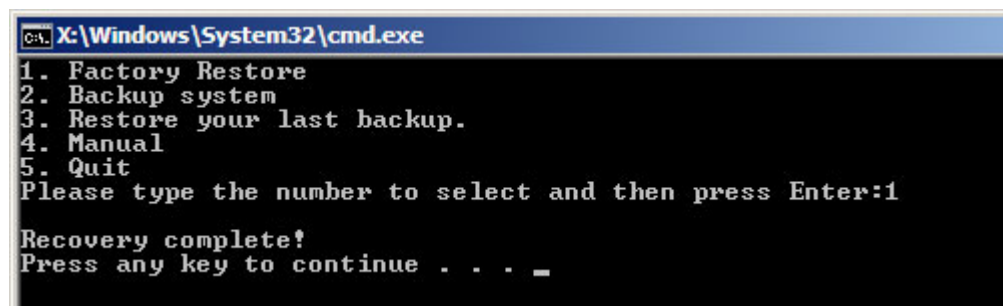

Figure B-36: Recovery Complete Window
Step 3: The screen shown in **Figure B-36** appears when completed. Press any key to reboot the system.